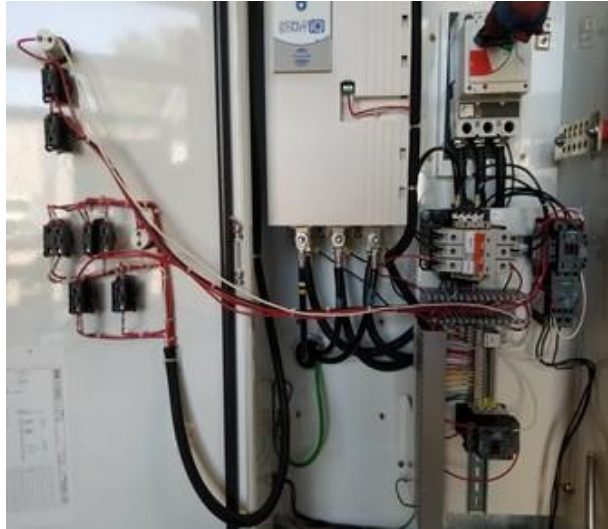

Figure 4.2 – Installation Guidelines
**\* Enclosed installations will require provisions for adequate motor cooling air flow. See Figure 4.2 below.**